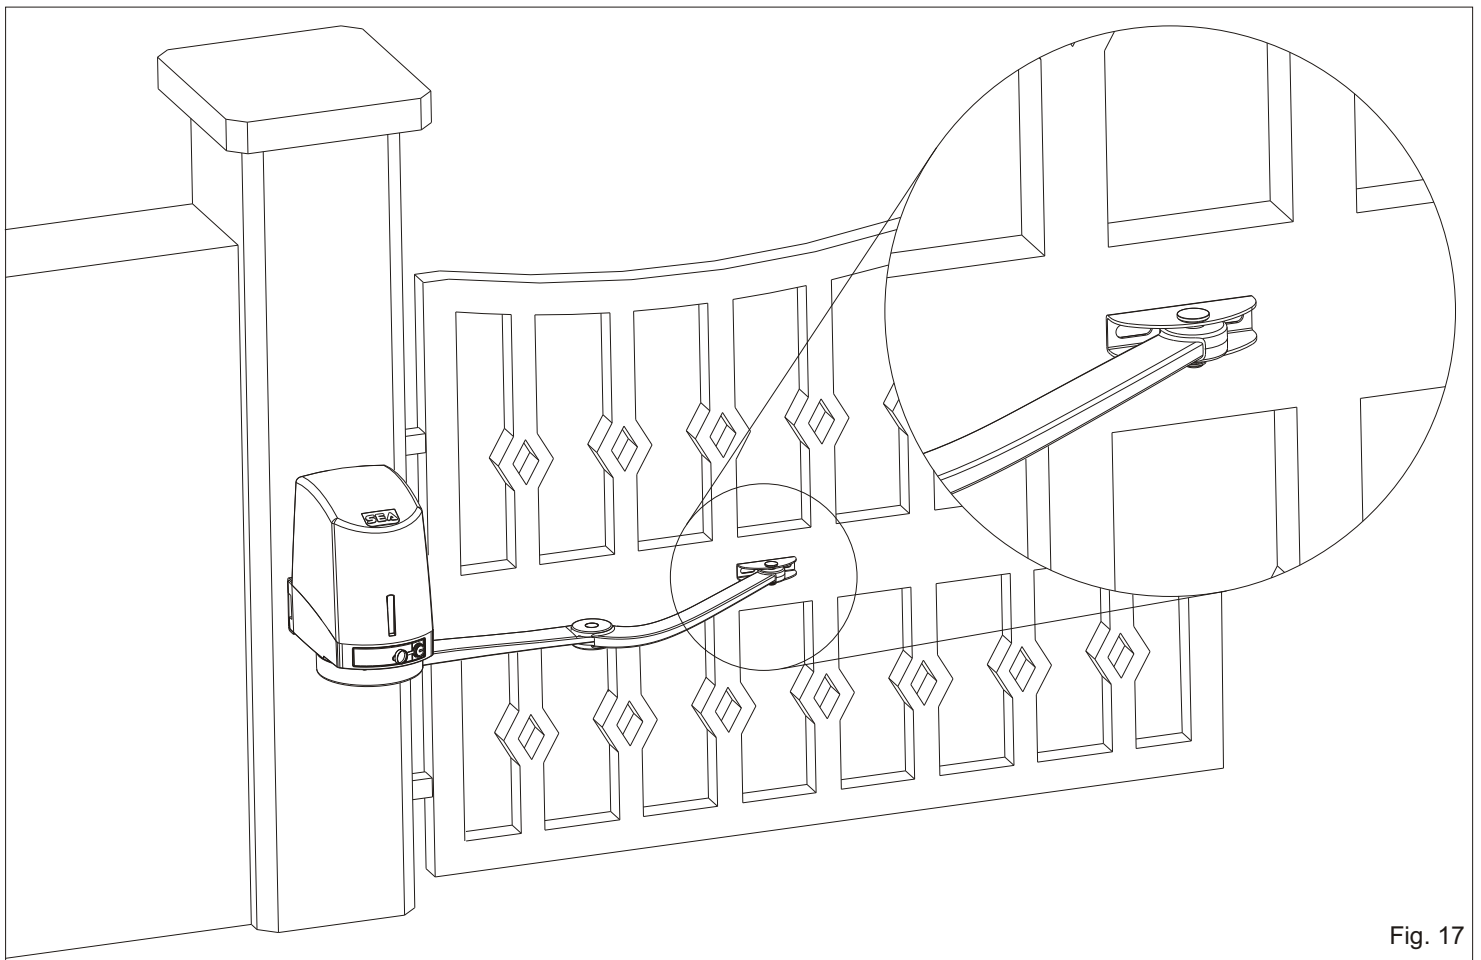

Fig. 17
- Extend the articulated arm (Fig. 10), lean the adjustable front bracket on the gate and make two marks on the center of the two holes (Fig. 17) respecting the measures in Fig. 10.